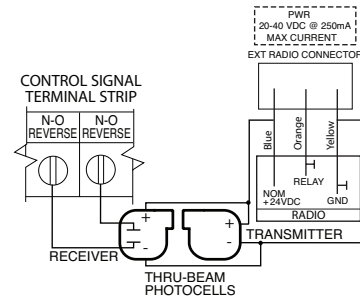

Figure 9
- 1) Nominal 24 Volt DC Commercial photocells with normally open contacts can be connected as shown in **Fig. 9**.